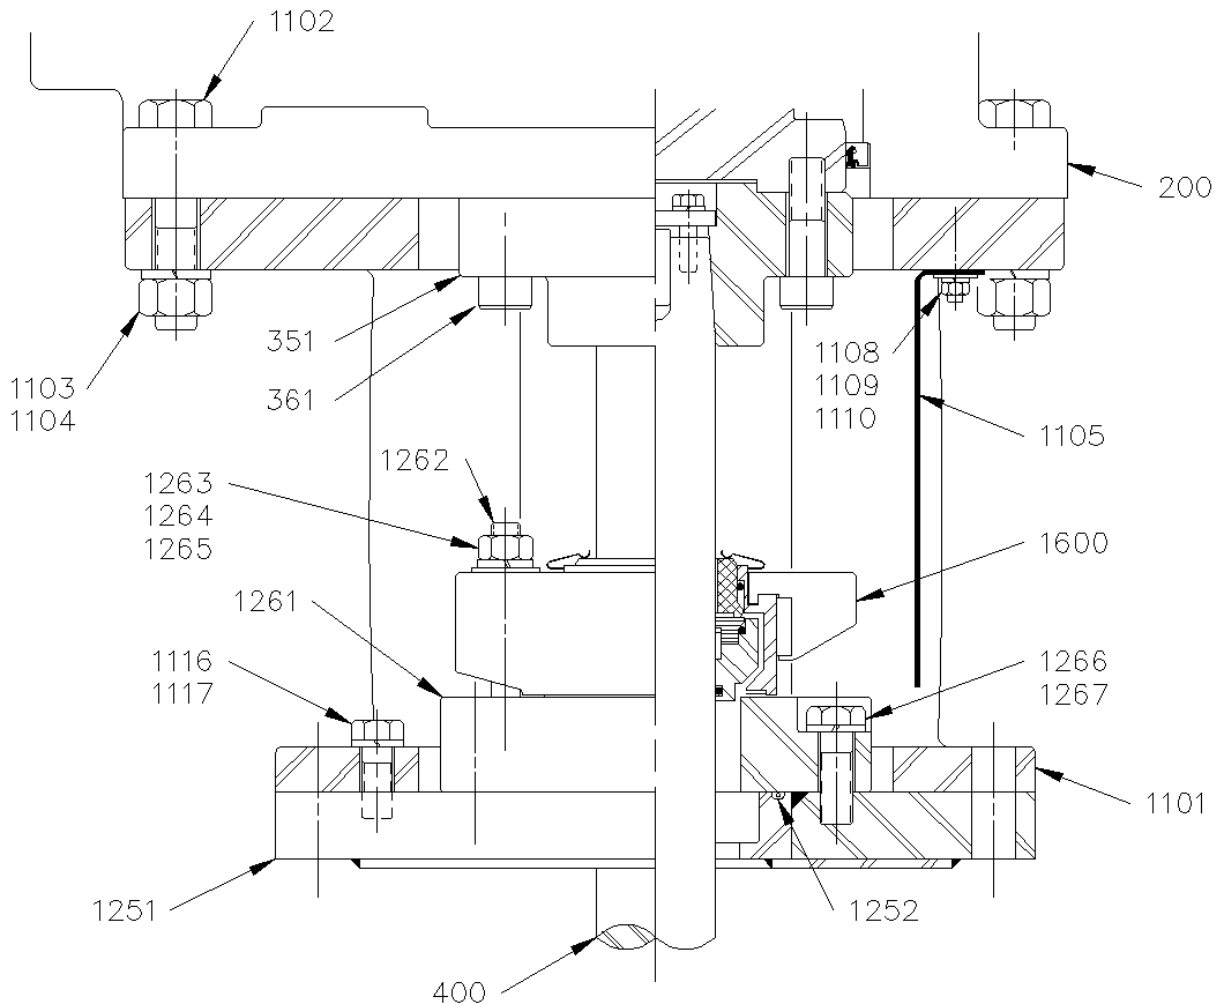

Figure 7. NT Style – Split Seal
5. Center the seal adapter plate [1261] on the shaft. Torque bolts [1266] to the value shown in the APPENDIX, Page 96. Refer to Figure 7, page 24.